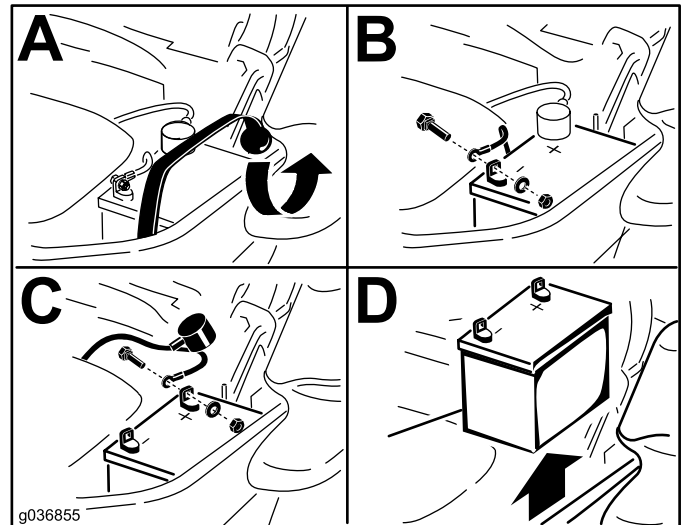

Figure 51
3. Remove the battery as shown in Figure 51.
1. Position the battery in the tray with the terminal posts opposite from the hydraulic tank (Figure 51).
- Secure the cables with 2 bolts, 2 washers, and 2 locknuts (Figure 51).
- Secure the battery with the rubber strap (Figure 51).